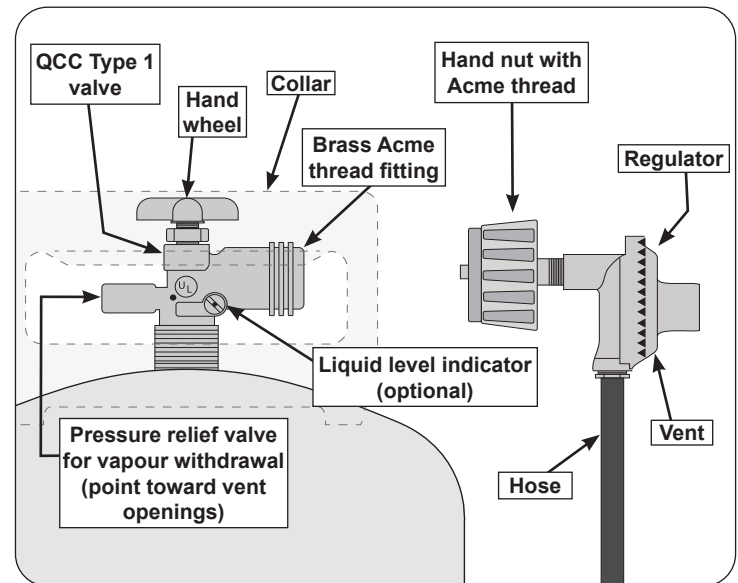

Fig. 12-1 Type I Acme thread coupler
- The cylinder used must include a collar to protect the cylinder valve. The cylinder supply system must be arranged for vapour withdrawal. See Fig. 12-1.
- When used with a cylinder, the gas supply system must be used with a pressure regulator. The pressure regulator and hose assembly (**not supplied**) used must match the specification for Type I by ANSI Z 21.58/CGA 1.6 and must comply with UL 144 as a part of the self-contained LP gas supply system (see Fig. 12-1).
To disconnect: Turn the hand nut counterclockwise until detached (Fig. 12-1).